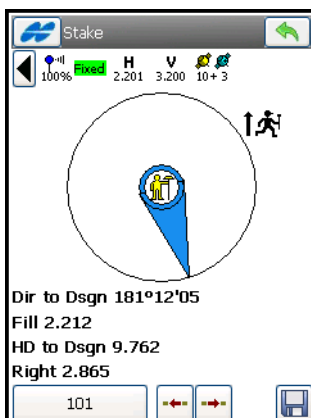

Figure 9-5. GPS Stakeout
7. For GPS+: use the information on the *Stakeout* screen for finding the target point (Figure 9-5). Tap  after the location is close enough to the design point. Tap the  button to change the design point (increment to the next point in the data set) of the stakeout.
- *Normal View* is default that shows graphic and text live values of stakeout (see for example Figure 9-5 on page 9-5).